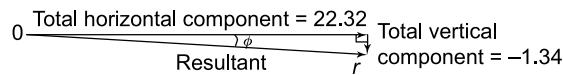

Figure 4.25
- Sketch the total horizontal and vertical components as shown in Figure 4.25. The resultant of the two components is given by length Or and, by Pythagoras' theorem,